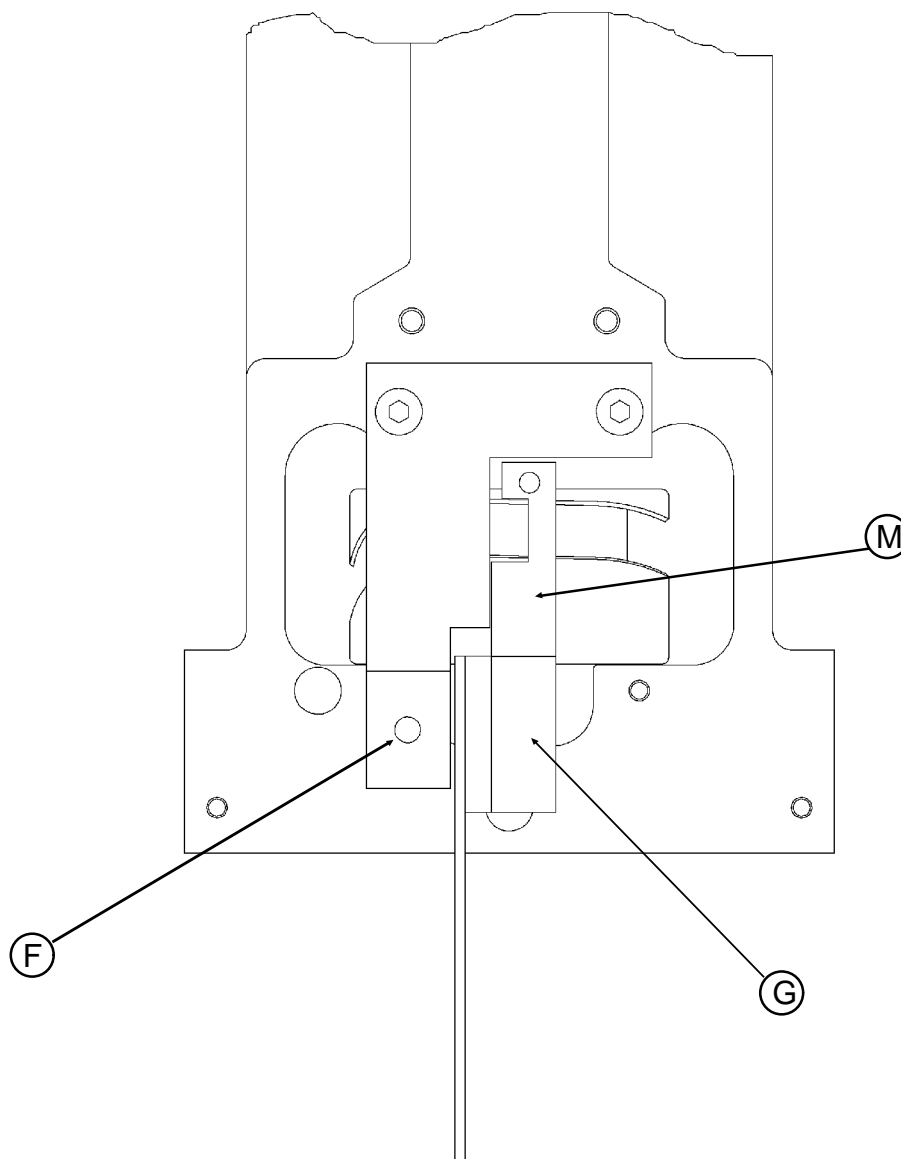

Figure 3
9. Loosen the Set Screw (Figure 3-F) holding the Take-Up Lever Assembly (Figure 3-G) in place.
23. Slide the Take-Up Lever Assembly into place, making sure that the first (Top) tooth of the Drive Gear (Figure 3-M) is engaged in the fifth valley (from the Bottom) of the Take-Up Lever Gear.